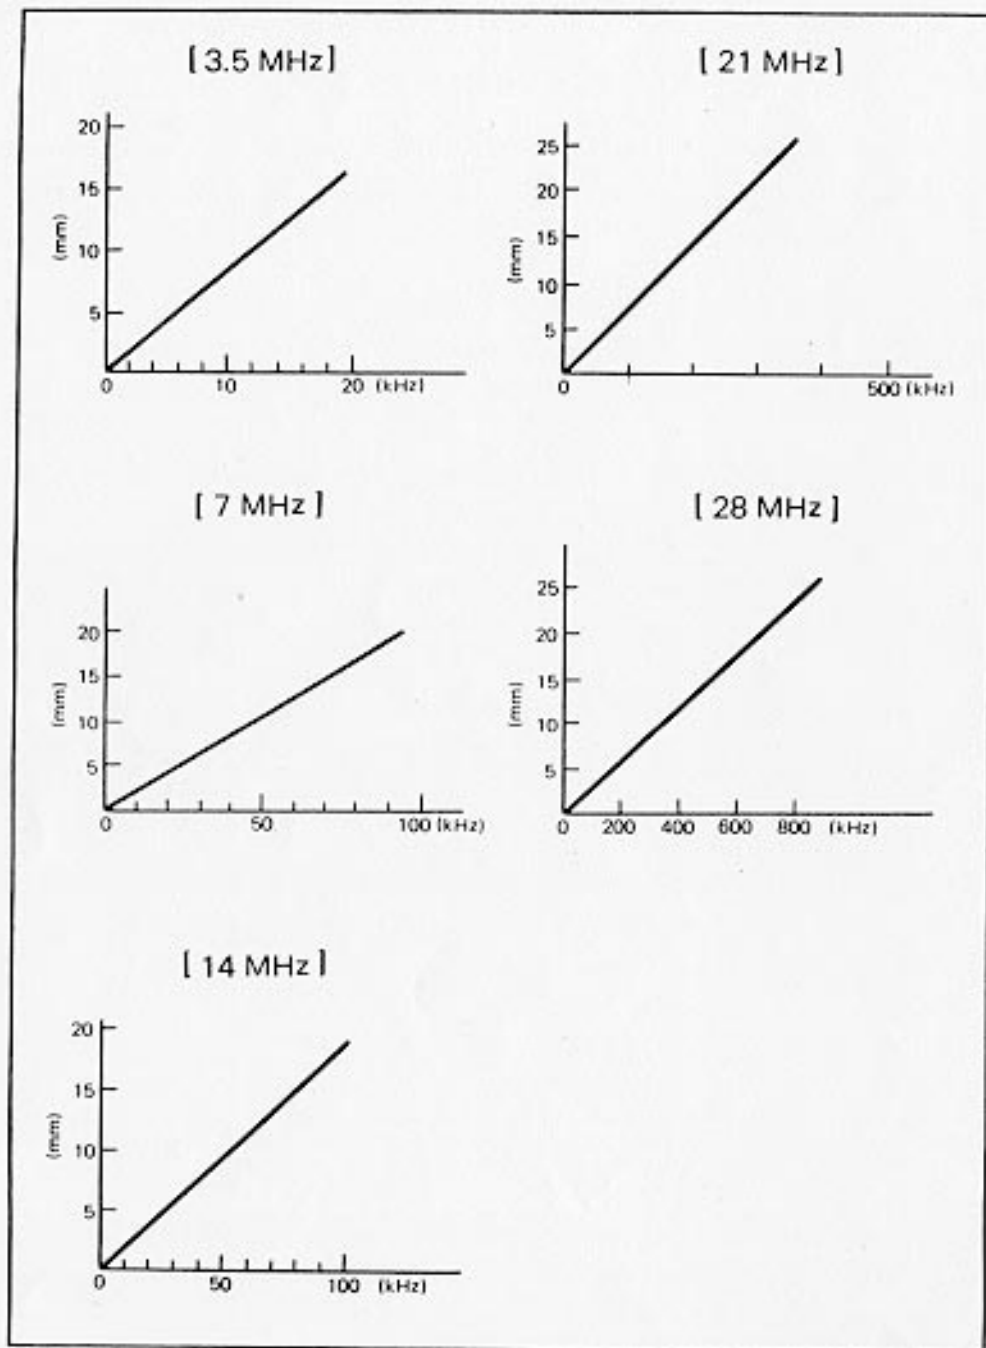

Fig. 7 Relationship between Length of Adjusting Unit and Frequency
- 6) When the " $f_0$ " is higher than the operating frequency, extend the adjusting unit on the tip of the antenna element. When it is lower than the operating frequency, reduce the length of the adjusting unit. Fig. 7 shows the relationship between the length of the adjusting unit and the " $f_0$ ". A slight adjustment provides optimum operation.
- 9) When the "fo" is higher than the operating frequency, extend the adjusting unit on the tip of the antenna element. When it is lower than the operating frequency, reduce the length of the adjusting unit. The relationship between the length of the adjusting unit and "fo" is shown in Fig. 7. A slight adjustment provides optimum operation.